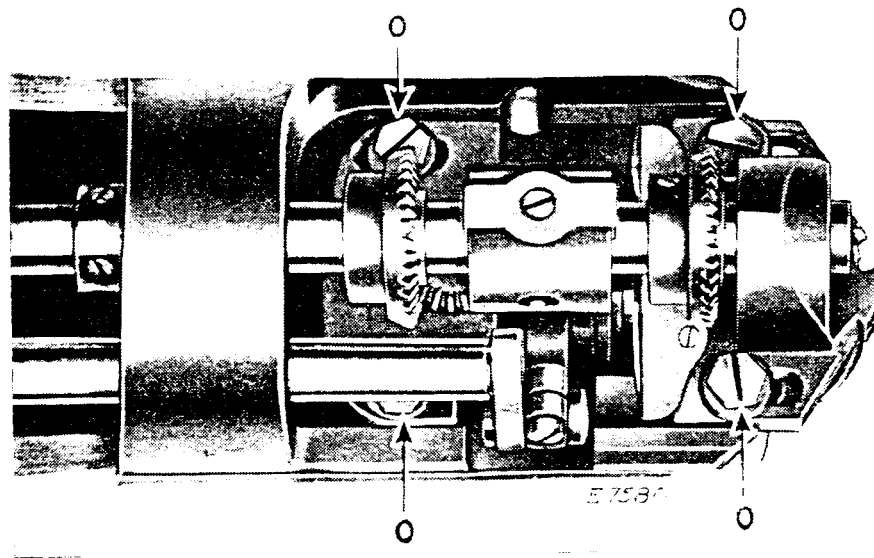

Fig. 15. Adjustment of Hook Saddles
If the sewing hook runs too far from or too close to the needle, loosen the hook saddle screws (O, Fig. 15) just enough to permit the saddle to be driven by light blows to the desired position, then retighten the hook saddle screws (O).